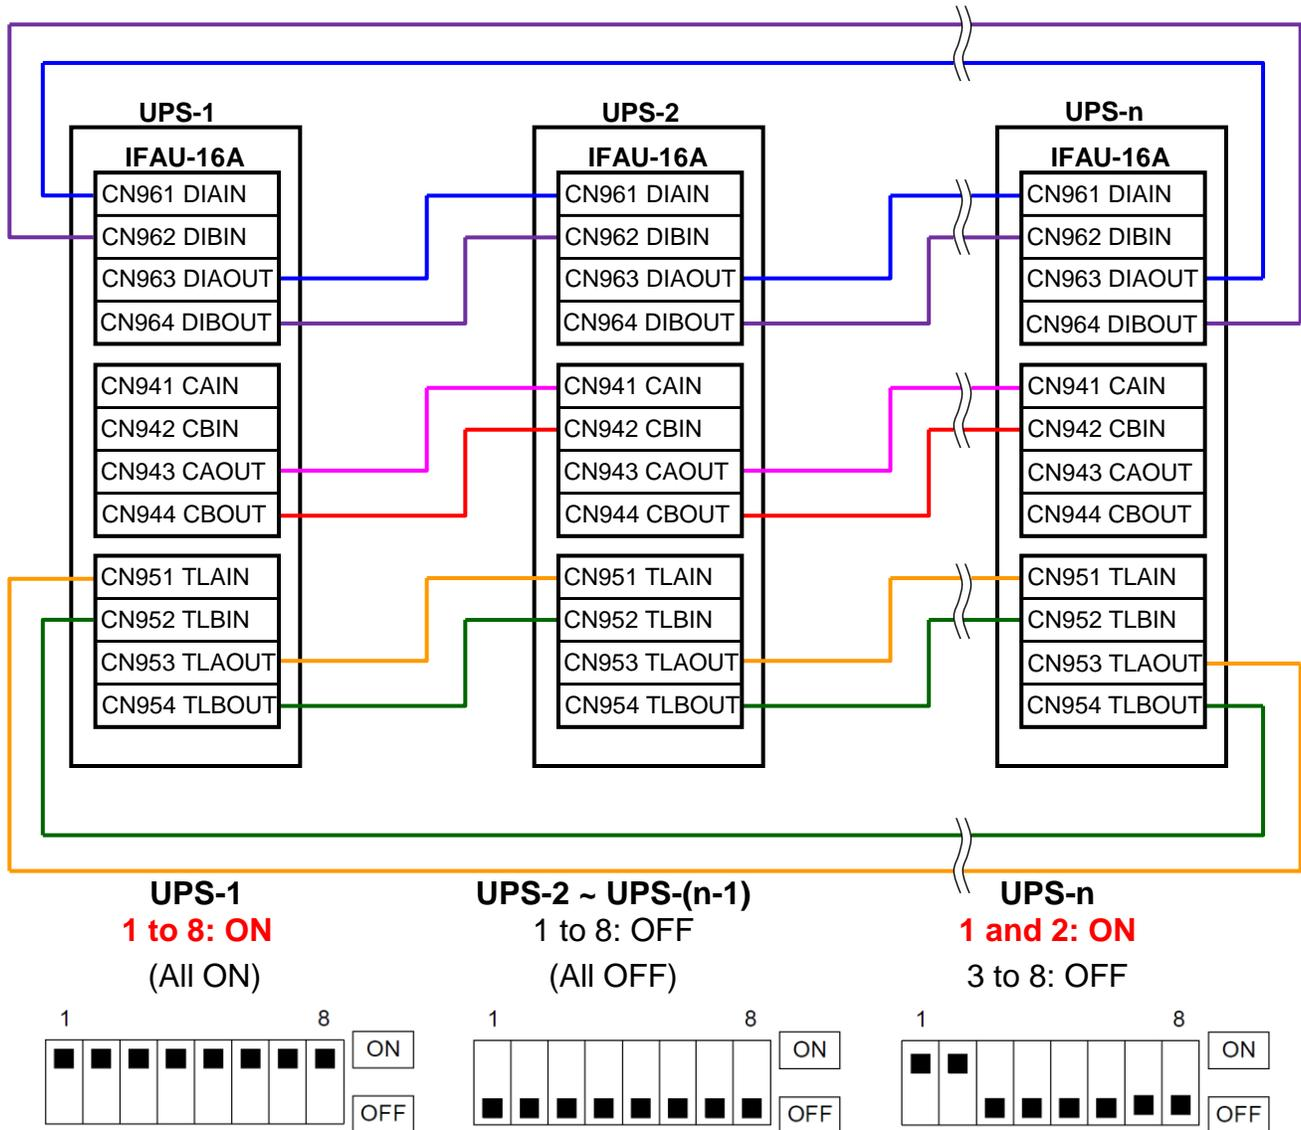

Figure 5-7 Detail of IFAU-16A Control Wire Connections for N units in MMS Configuration
- (1) Confirm the number of units to be connected in parallel. Identify the input/output power terminal blocks and control wire connections for parallel operation systems as shown in the appropriate Figure 5-1 through Figure 5-7.
- (2) Connect the external control wire and power wire.
Parallel control signals, for TLAIN, TLAOUT, TLBIN, TLBOUT, CAIN, CAOUT, CBIN, CBOU, DIAN, DIAOUT, DIBIN, DIBOUT as shown in Figure 5-6 and Figure 5-7)